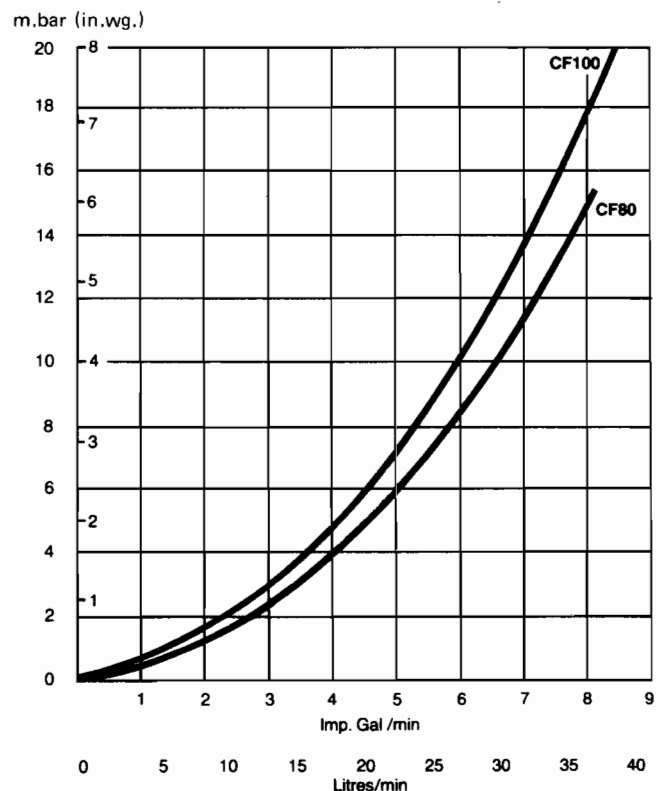

FIG. 1 PRESSURE LOSS ACROSS BOILER
6. The circulating pump should be selected with reference to Fig. 1. The resistance through the boiler heat exchanger will not exceed 10.5 mbar (4.2 in.wg.) at a flow rate of 6.6 gal/min. on the CF80 or 19.0 mbar (7.6 in.wg.) at a flow rate of 8.3 gal/min. on the CF100 model.